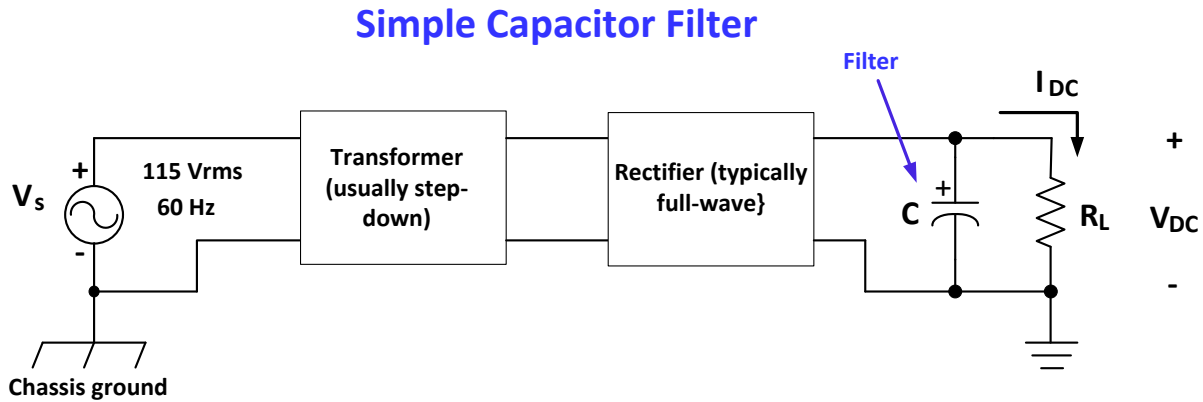

Figure 4-46.
Pulsating DC is not suitable for most electronic systems. The problem is that even though we have an average value, the waveform amplitude varies and goes to *zero* instantaneously. For example, with a power-line frequency of 60 Hz and full-wave rectification, we have pulsating DC with a frequency of 120 Hz. If this were used to power an audio amplifier system, a very loud 120-Hz hum would be present at its output, and any audio input would be distorted severely. The DC must be relatively constant. Therefore, the output of the rectifier stage must be filtered or smoothed. The most elementary power supply filter consists of a single capacitor placed across the output of the rectifier in parallel with the load (see Fig. 4-46).
- Electrolytic capacitors are *polarized*. [Note the plus (“+”) next to the capacitor symbol in Fig. 4-46]. This means one end must always be more positive than its other end. If the polarity is inadvertently reversed or if we place an AC voltage across them, the capacitor can be damaged severely, or even explode.